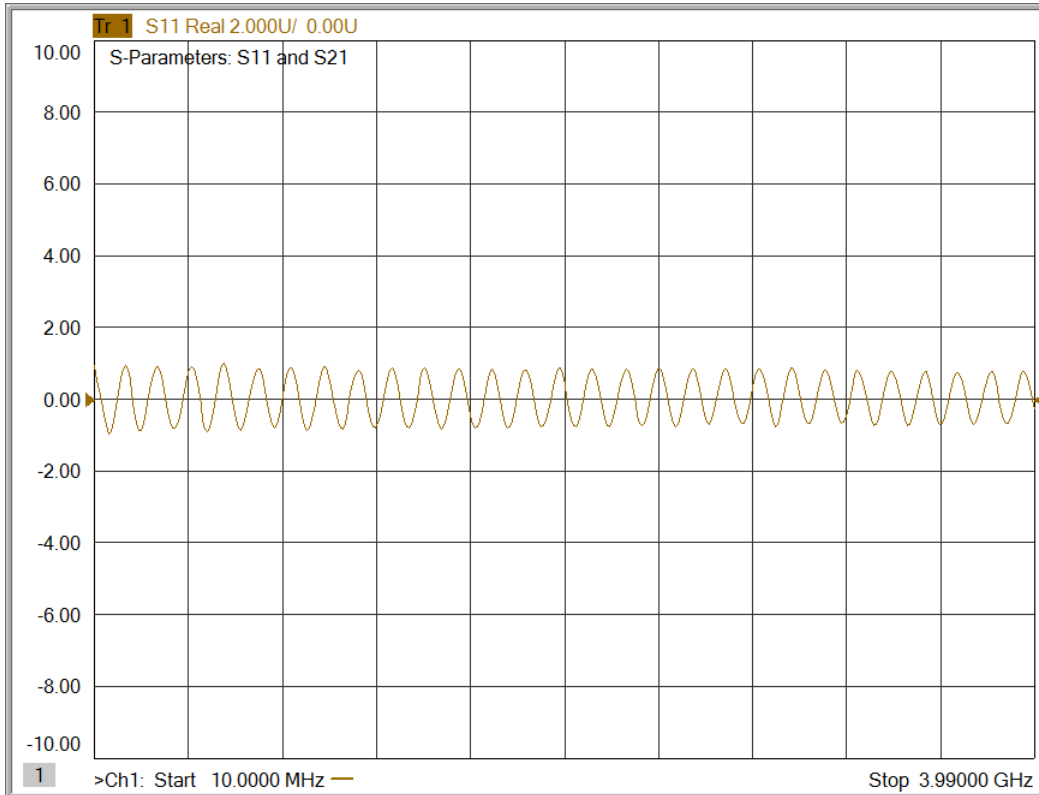

Figure 1: Real format
- To have a better view of the measurement trace, select 'Format' click 'more' and then select 'Real'. Figure 1 is what has to be seen.